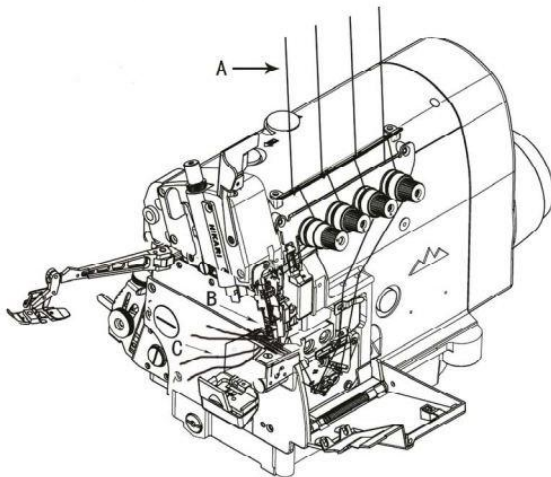

Fig.10
2. In case the machine is threaded previously (Fig.10)